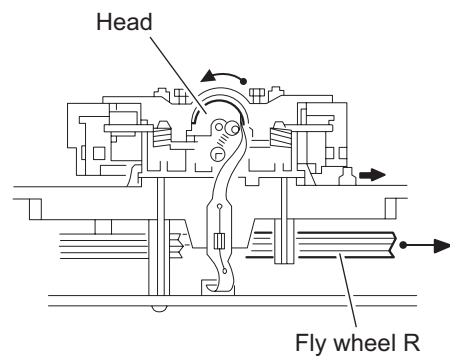

Fig.2
- (1) While moving the trigger arm on the right side of the head mount in the direction of the arrow, turn the flywheel R counterclockwise until the head mount comes ahead and clicks.
- (2) The head turns counterclockwise as you turn the flywheel R counterclockwise (See Fig.2 and 3).
- (3) Disconnect the flexible wire from connector CN48 on the head amplifier board.
- (4) Remove the spring from the back of the head.
- (5) Loosen the azimuth screw for reversing attaching the head.
- (6) Remove the head on the front side of the head mount.